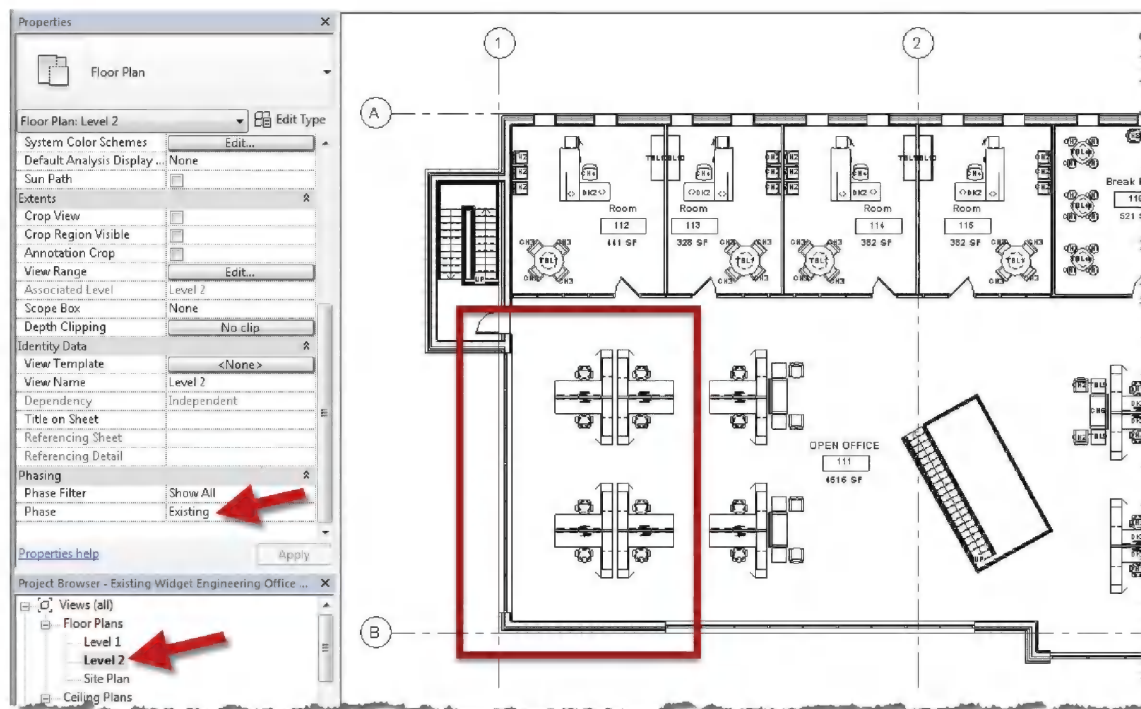

FIGURE 16-3.2 Level 2 floor plan with Phase set to existing
3. Switch to the **Level 2** floor plan view (Figure 16-3.2).